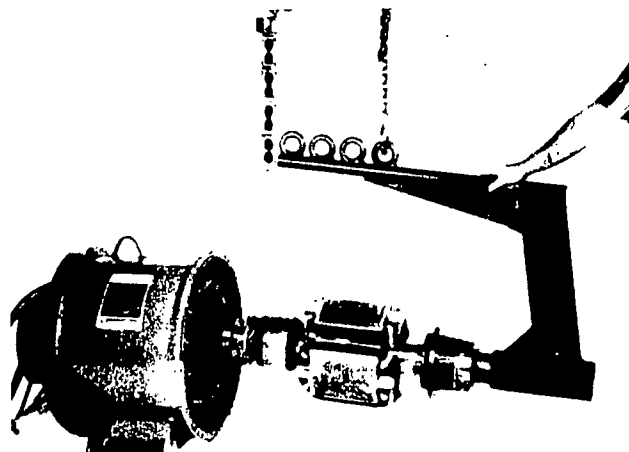

Figure 2. Main Rotor Installation
2. Use a suitable lifting fixture and hoist (Figure 2) and carefully install the rotor assembly into the main stator assembly, through the drive end.